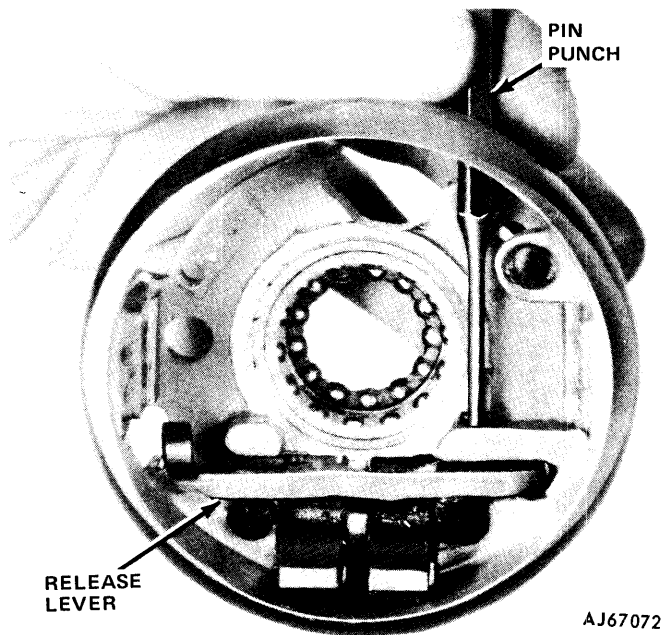

Fig. 11-35 Removing Release Lever Pin
(32) Lift tilt release handle to disengage lock shoes and remove housing. Remove two ball bearing assemblies from housing if bearings are to be serviced.
(33) Remove tilt release lever.
(34) Remove release lever pin from housing using pin punch or Tool J-22635 (fig. 11-35).